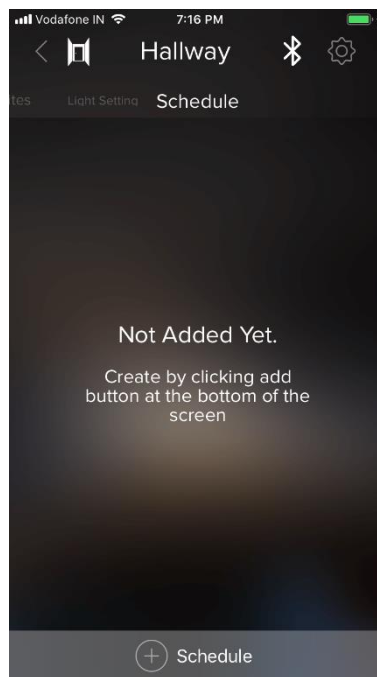

Figure 5-13 Schedule Screen
5.4.1 Click on the Group or individual SLC inside the Group, and scroll to the right until the Schedule tab appears, as shown in first image of Figure 5-13. Click on the “Schedule” button and then select on the appropriate type of schedule required to be set by the User. Follow the instructions shown on the screens until finished to create the schedule.